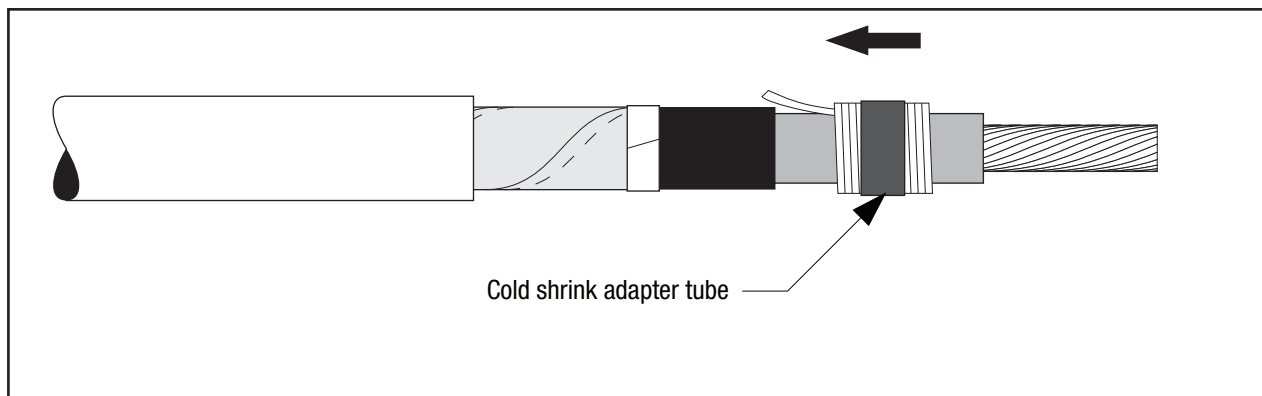

Figure 7
3.4 For 4/0 AWG through 350 kcmil copper connectors, or connectors with an O.D. between 0.69 - 0.84" (17,5 - 21,3 mm): Park the cold shrink adapter tube on the insulation. (Figure 7)